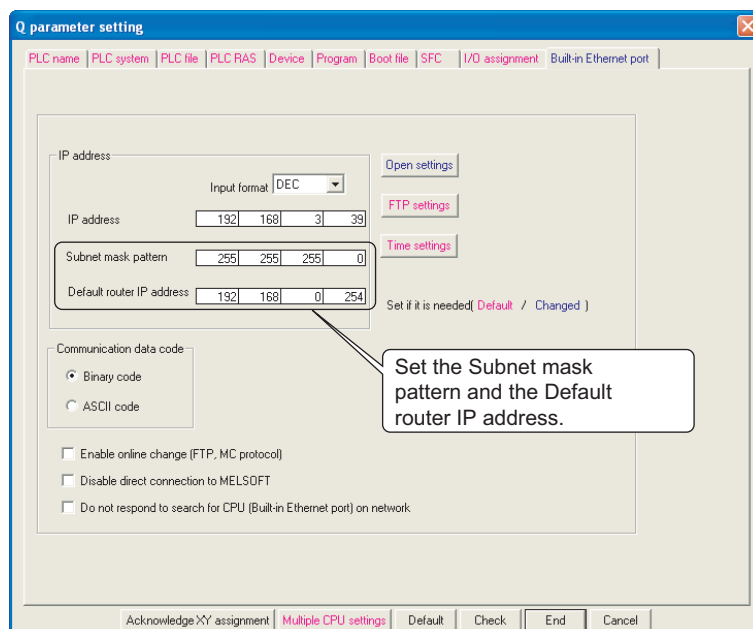

Figure 7.12 Built-in Ethernet port tab
When accessing a CPU module via routers, set the items in parameter as shown in Figure 7.12. For other settings, refer to (1) in this section.